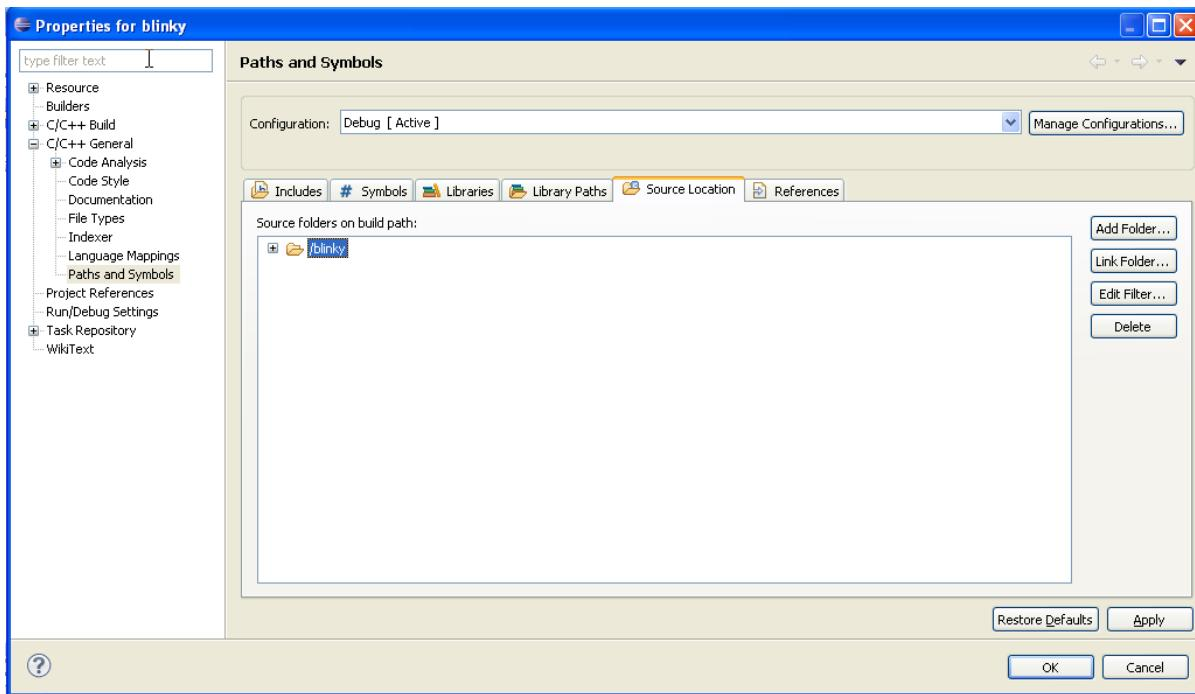

Figure 11.17 Paths and Symbols
- Include source location. In the Project Properties window, go to C/C++ General -> Paths and Symbols -> Source Location -> Link Folder. Include the *driverlib* and *utils* folder, which contain the C source files. These are placed inside the StellarisWare folder in the C: drive. This is shown in Figures 11.17 and 11.18.